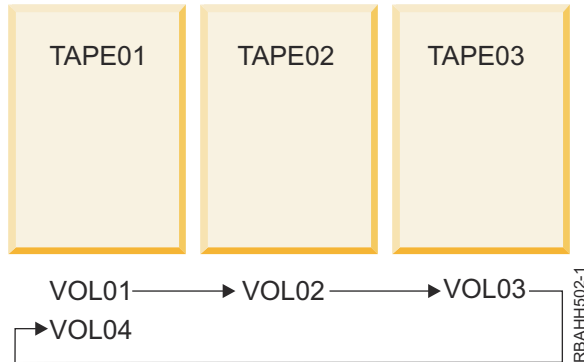

Figure 1. Multivolume-tape-data-file-sequence using three tape devices
- If you specify more than one tape device, then place the volumes on the devices in the sequence that is specified in the tape device file. Refer to the following reference: Figure 1 on page 2. For example: